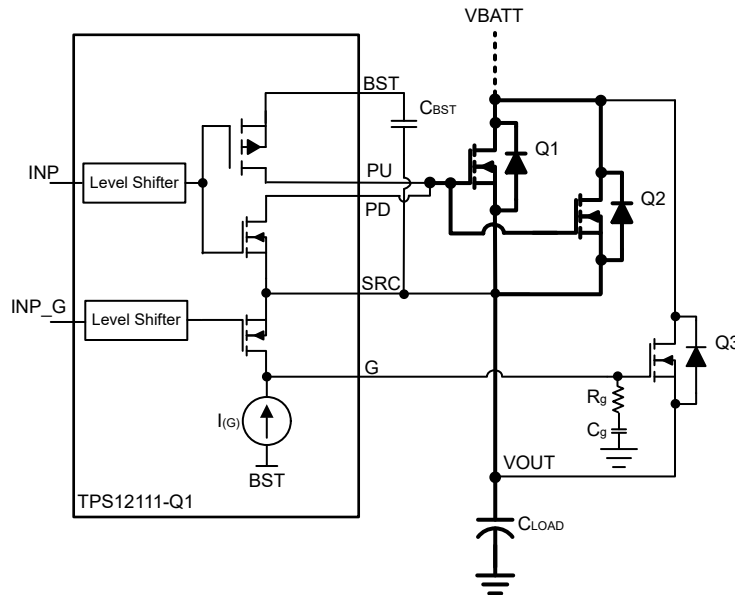

Figure 8-7. Capacitor Charging Using Gate Slew Rate Control of Precharge FET
The TPS12111-Q1 integrates precharge gate driver (G) with a dedicated control input (INP_G). This feature can be used to drive a separate FET that can be used to precharge the capacitive load. Figure 8-7 shows the precharge FET implementation for capacitive load charging using TPS12111-Q1. An external capacitor C_g reduces the gate turn-ON slew rate and controls the inrush current.